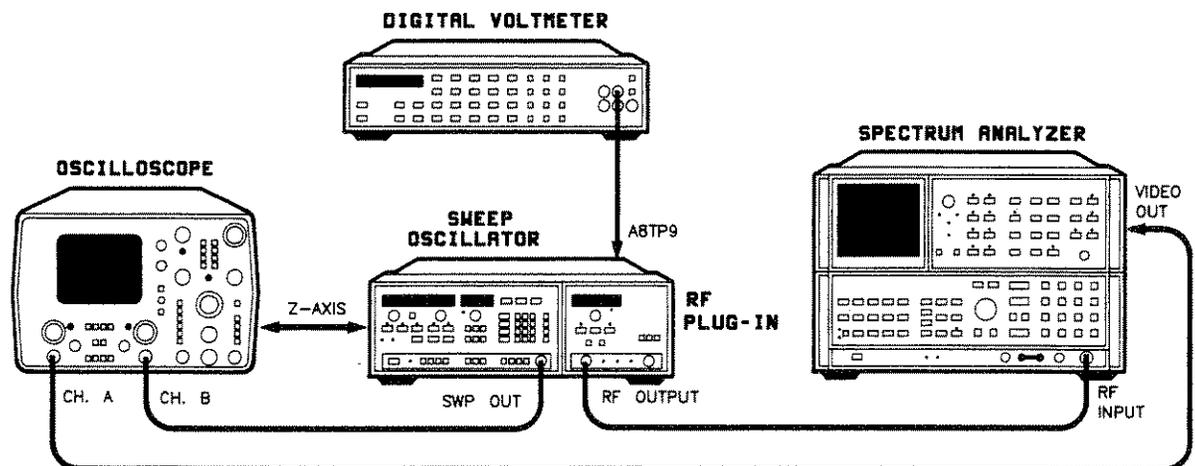

Figure 5-17. YO Delay Compensation Test Setup
1. Connect the equipment as shown in figure 5-17.